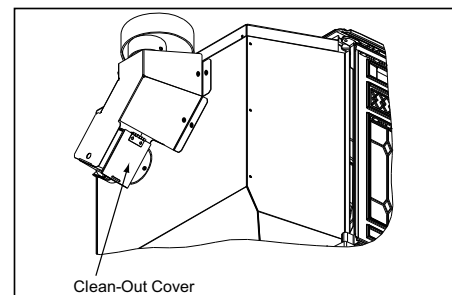

Figure 34.1
- Open the clean-out cover. **Figure 34.1.**